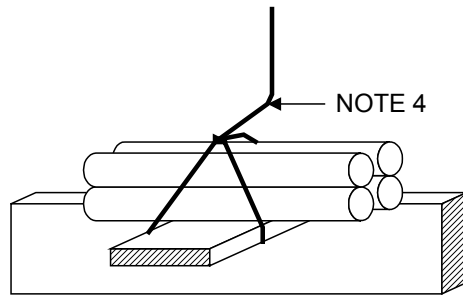

Figure 13d
4. REMOVE SLACK BY PULLING UP AND TO THE RIGHT. KEEP LOOP ON TOP OF CABLE (FIGURE 13d).